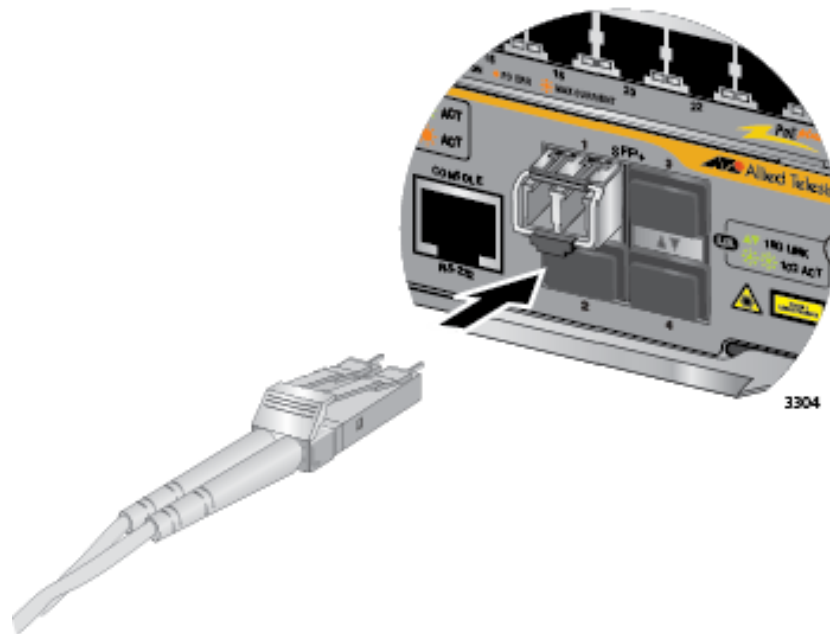

Figure 114. Attaching a Fiber Optic Cable to an SFP+ Transceiver in the AT-SBx81CFC960 Controller Fabric Card
6. Connect the fiber optic cable to the port on the transceiver, as shown in Figure 114 on page 190. The connector should snap into the port.